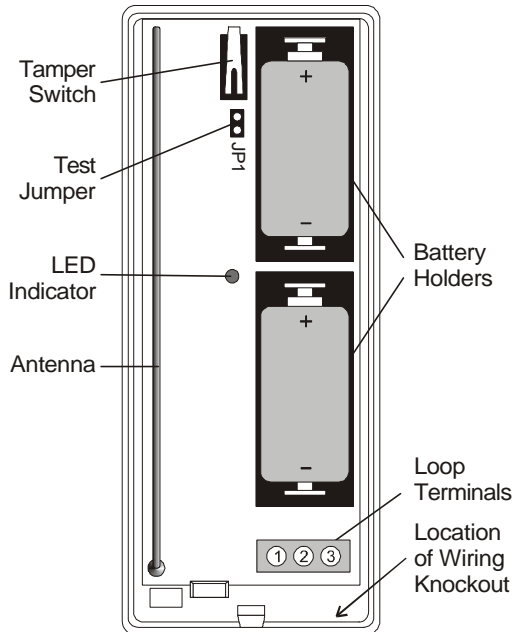

Figure 1: PCB
2. Observing correct polarity, insert two lithium batteries into the battery holders as shown in figure 1.